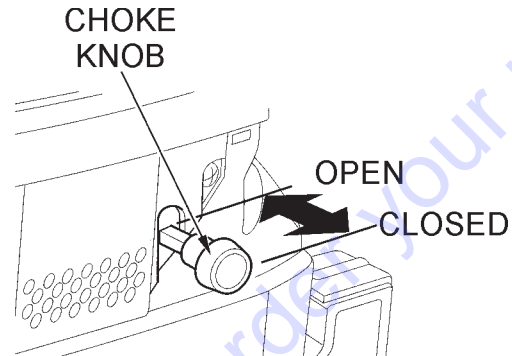

Figure 9. Choke Knob
5. When starting a cold engine, pull the choke knob, (Figure 9) out to the **closed** position. In warm weather or when the engine is warm, the unit can be started with choke halfway or completely **open**.